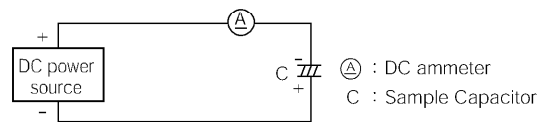

Fig. 2-6
(1)For the circuit shown in Fig.2-6, DC current is selected from Table 2-2 according to the nominal diameter of the capacitor to be tested.